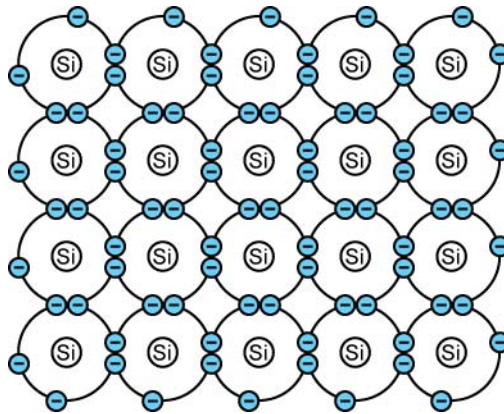

Figure 1: Representation of the Outer Electrons of a Pure Silicon Crystal
- A chemically pure semiconductor material (known as an intrinsic semiconductor) is a poor conductor. Figure 1 represents the crystal structure of pure silicon.